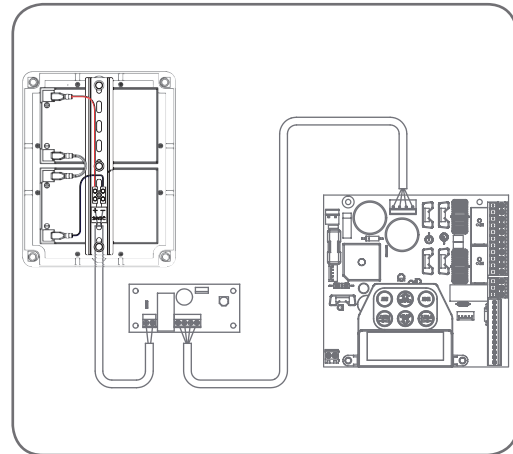

fig 51
3. Connect the SBY-3 charger board to battery box and to DCB-05 as shown (**Fig. 51**).